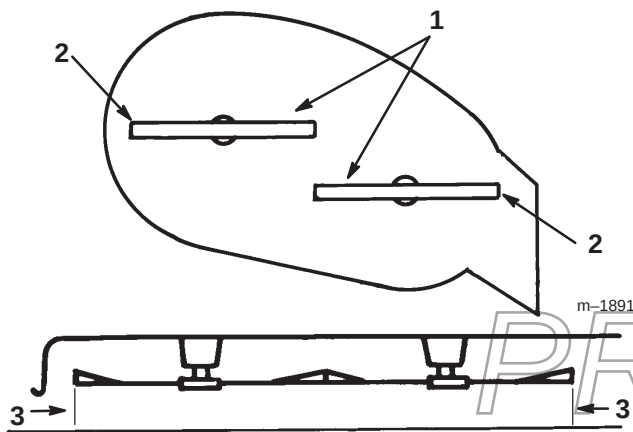

Figure 47
4. Carefully rotate blade(s) side to side (Fig. 47). Measure between the outside cutting edges and the flat surface (Fig. 47). If both measurements are not within $\frac{3}{16}$ " (5 mm), an adjustment is required; refer to steps 5 and 6.